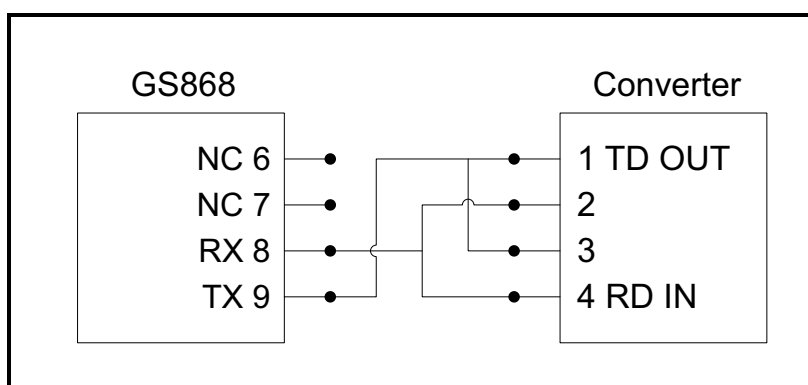

Figure 4: Typical RS485 Connections
3. Feed one end of the cable through the conduit hole, wire it to terminal block J1 and secure the cable clamp. Connect the other end of the cable to the converter, as shown in Figure 4 below.